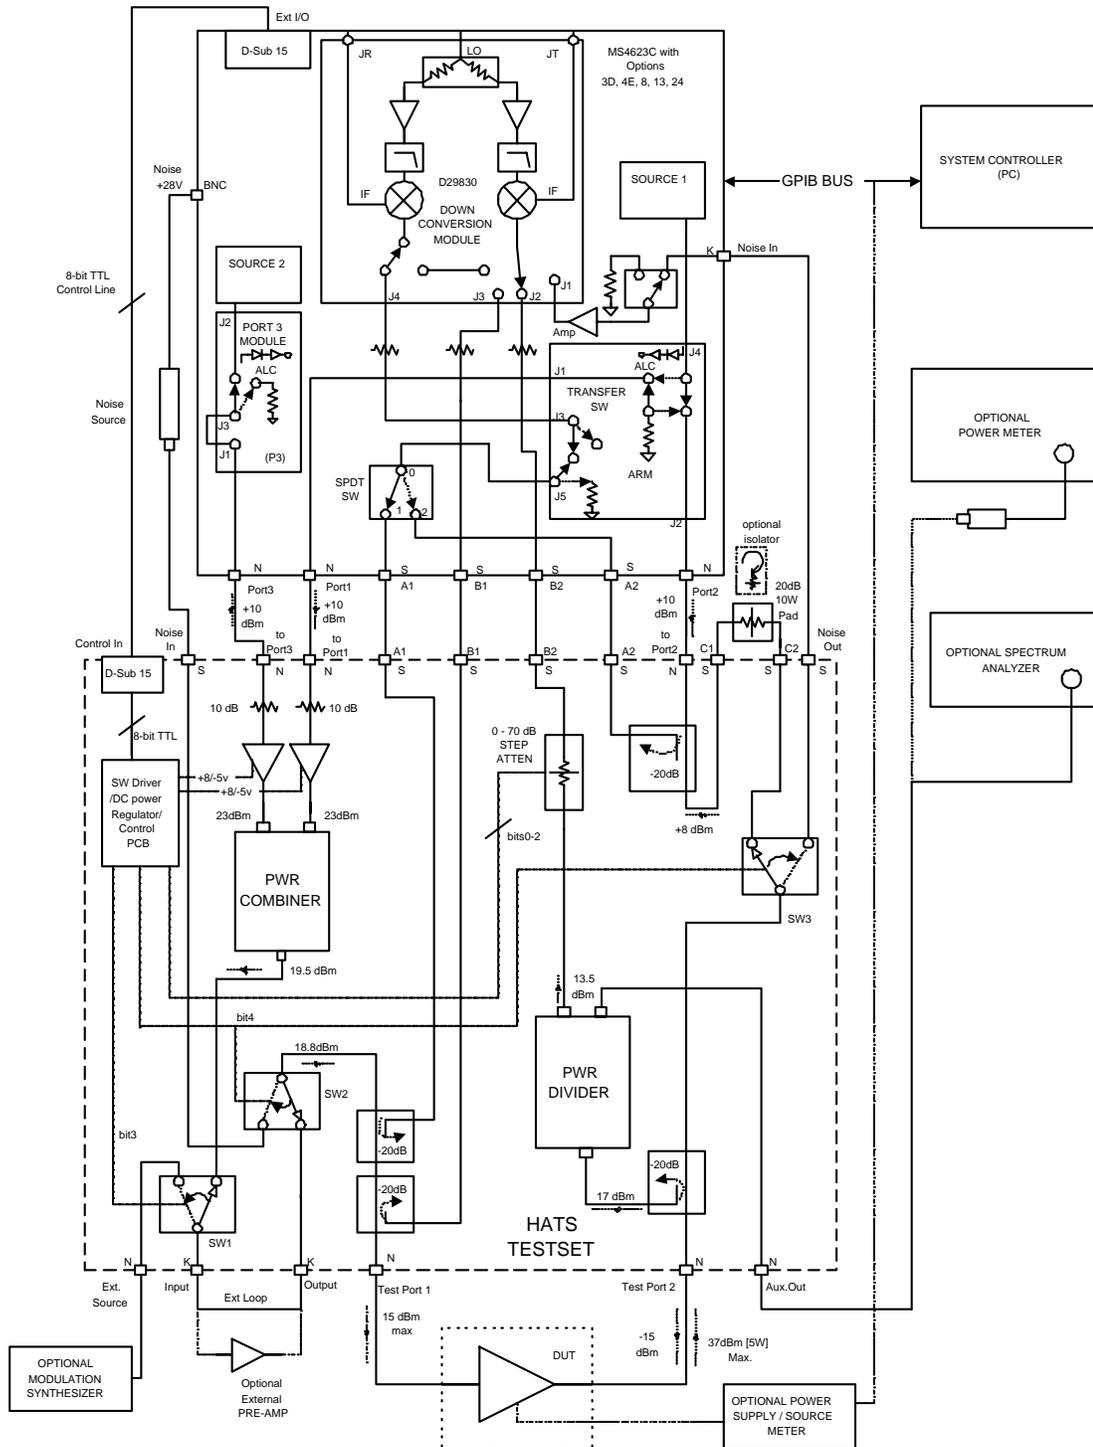

Figure 1-1. Overall Functional Block Diagram of the ME7840/4 Power Amplifier Test System, Handset Configuration with the MN4783A Test Set.
The ME7840/4 hardware consists of a MS462XC Direct Receiver Access (DRA) Scorpion®, a MN4783A test set, a customer supplied Personal Computer (PC), and an optional current probe. A block diagram of the ME7840/4 test system is shown in Figure 1-1 on the following page. General test set specifications appear below: